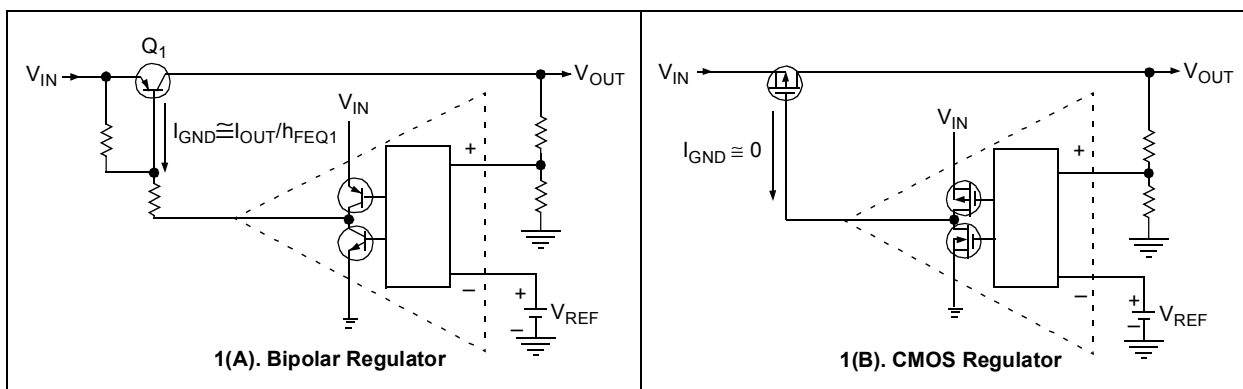

FIGURE 1: Bipolar vs. CMOS LDO Regulator Schematics.
Figure 1(A) and Figure 1(B) compare the block diagram for a common bipolar regulator with that of an equivalent regulator fabricated in CMOS. The supply current to the bipolar device is composed of the bias current, plus a "ground current" (I_{GND}) component shown in Figure 1(A). This is a fraction of the output current (determined by the h_{FE} of the pass transistor) sunk through the output stage of the error amplifier. The "ground current" component of the CMOS regulator shown in Figure 1(B) is virtually zero, due to the extremely large drain-to-gate impedance of the CMOS pass transistor.